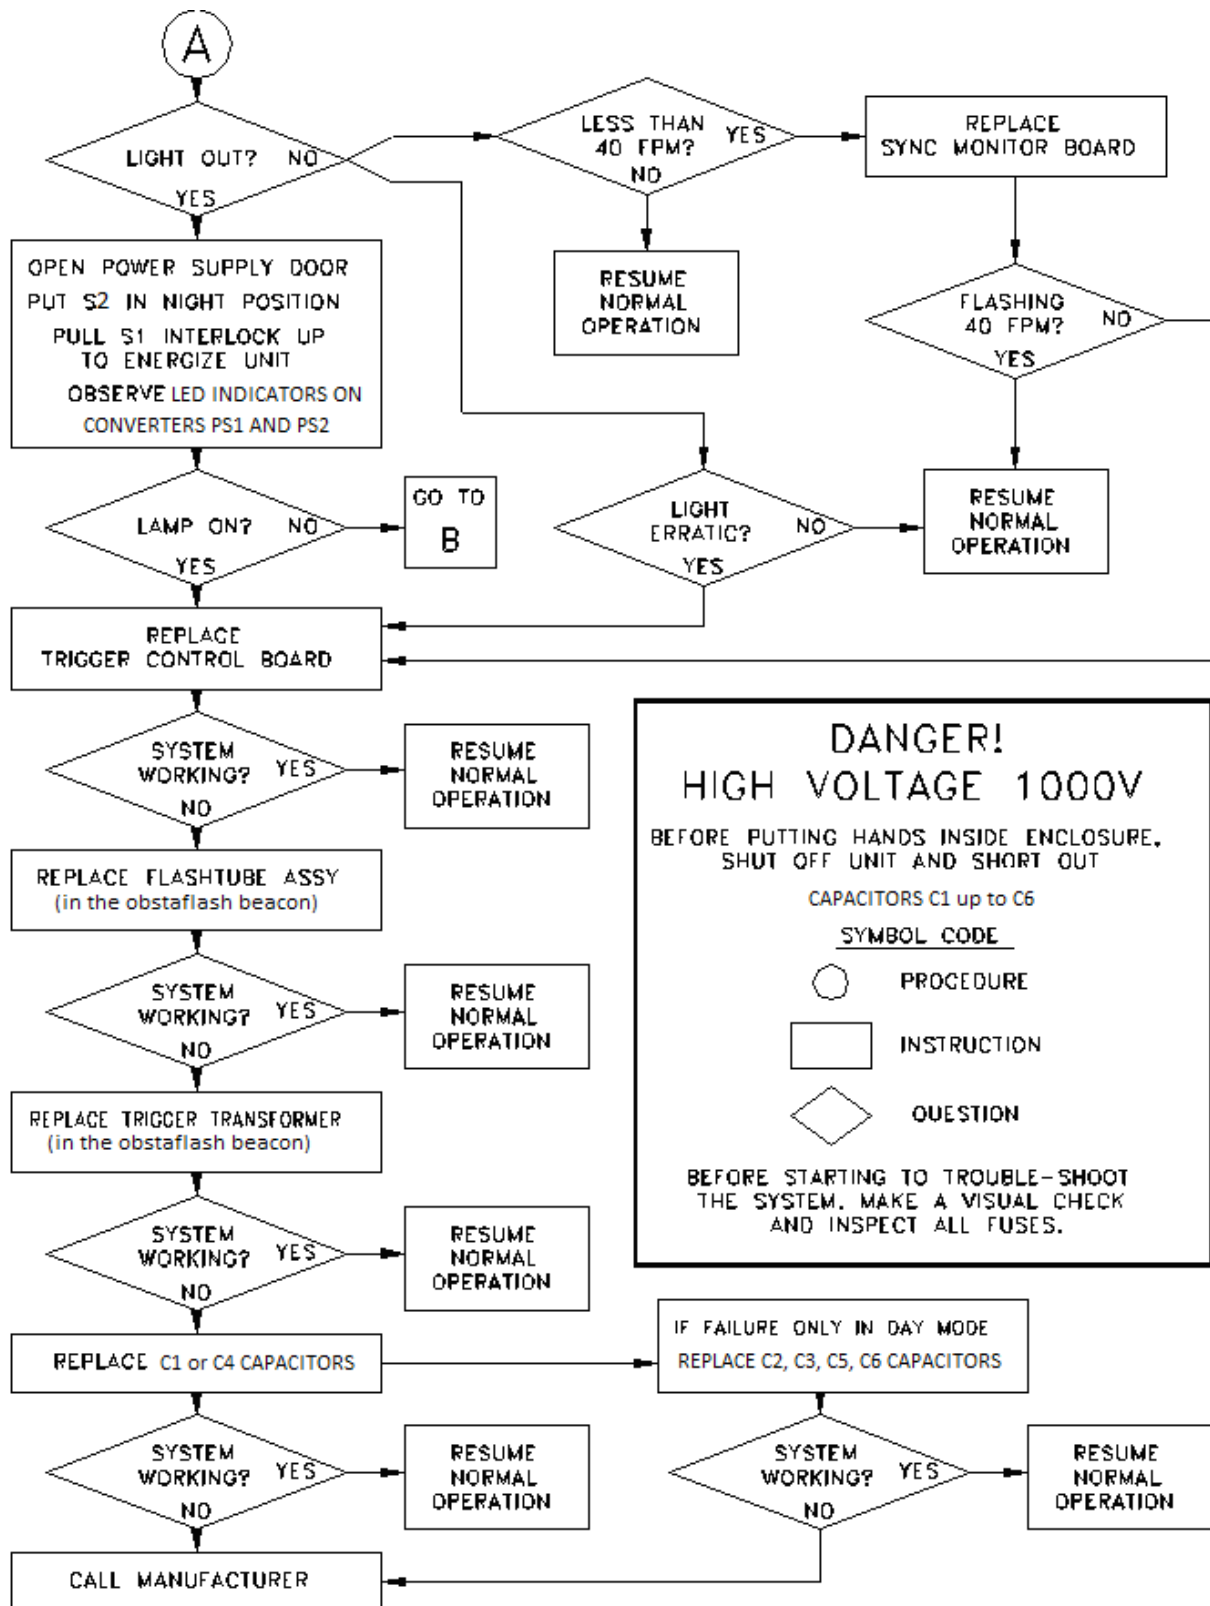

Figure 5-1a. TROUBLE SHOOTING PROCEDURE
6. The procedures in Figure 5-1a, and b presume that all fuses, interlocks, and controls are functioning properly.